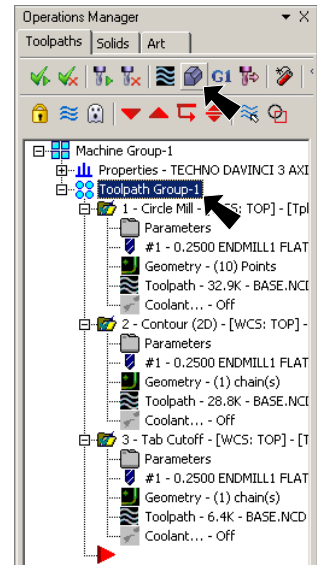

Fig. 45
Step 2. Click the **Toolpath Group-1** to select all **three** toolpaths, Fig. 45.
Step 3. Click **Verify**  in the Toolpaths Manager, Fig. 45.